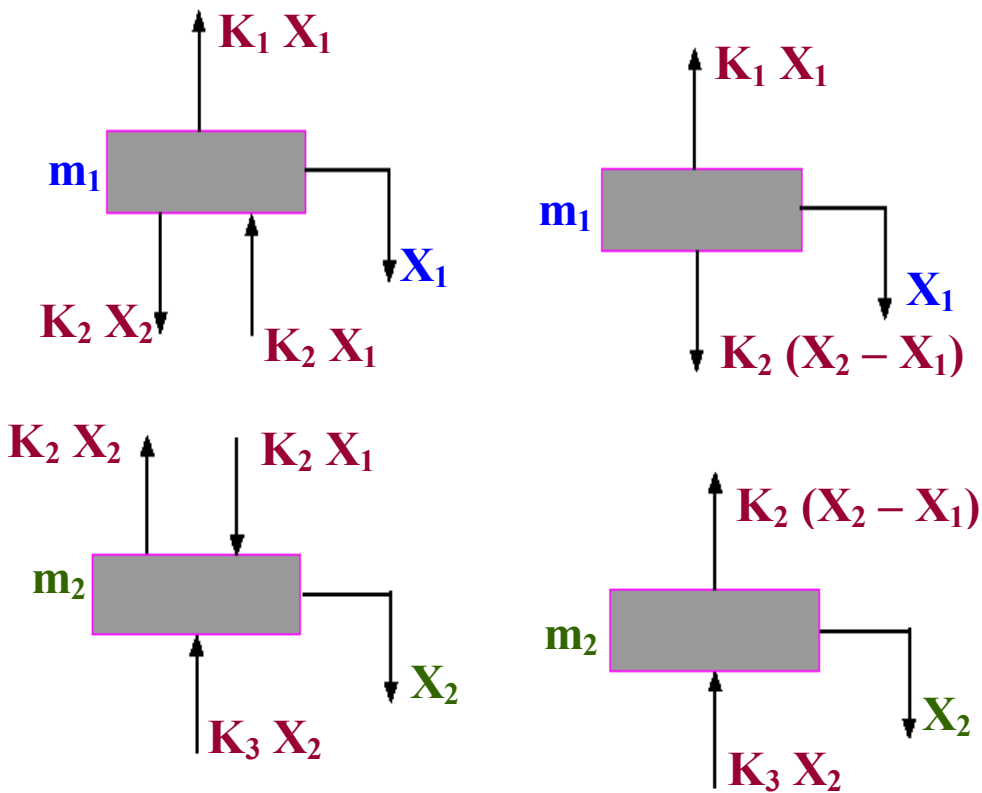

Figure 2.16 (b)
**Illustration 2:** For the system shown in figure 2.16 (a) obtain the mathematical model if  $x_1$  and  $x_2$  are initial displacements.